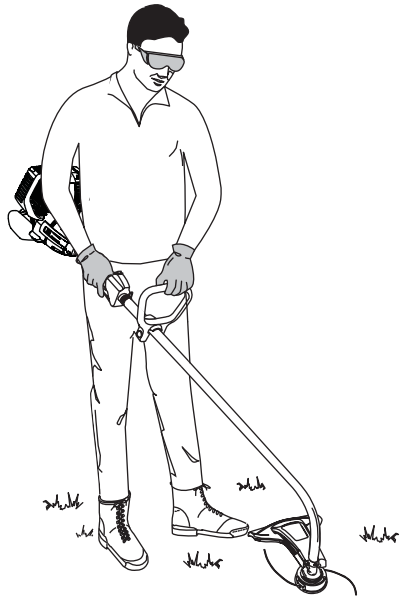

Fig. 13
4. While holding the unit in the operating position (Fig. 13), position the D-handle to the location that provides you the best grip.
Before operating the unit, stand in the operating position (Fig. 13). Check for the following: